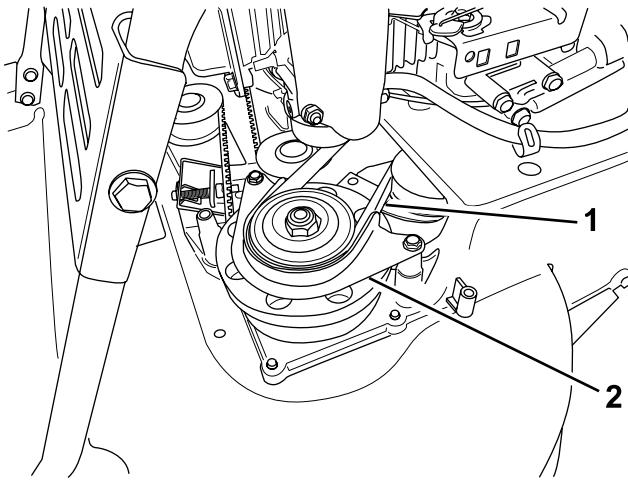

Figure 44
- 7. Remove the BBC belt guard (Figure 44).